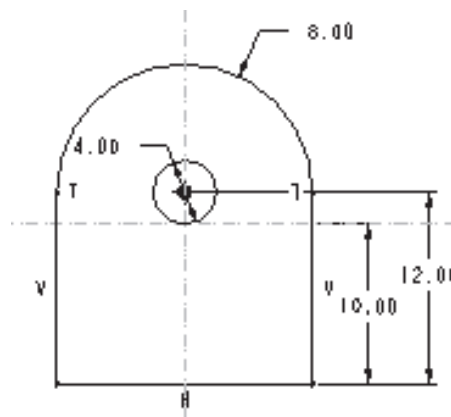

Figure 4-45 Sketch for the base feature with dimensions and constraints
1. Draw the section sketch using various sketcher tools and add the required constraints and dimensions shown in Figure 4-45. Since the **Intent Manager** is on by default, the sketch is dimensioned automatically and some weak dimensions are assigned to it.
2. Modify the dimension values to the values shown in Figure 4-45.